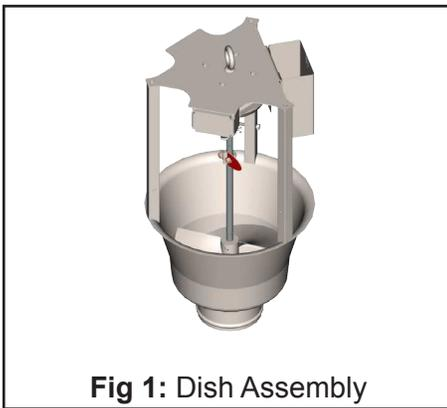

Fig 1: Dish Assembly
STEP 1: Locate the Dish Assembly, Floats and Float Arms. (See Figure 1 & 2)